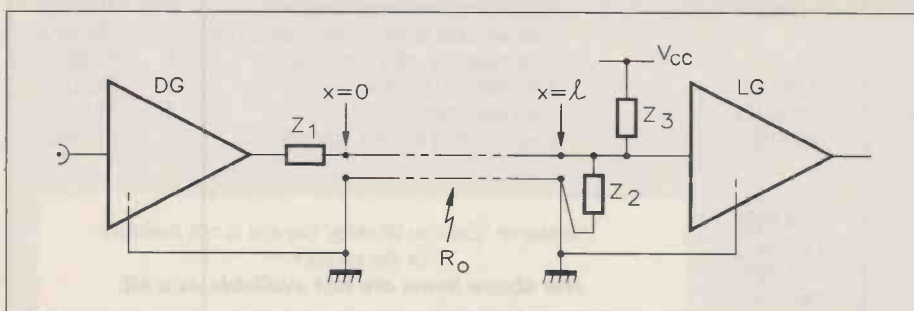
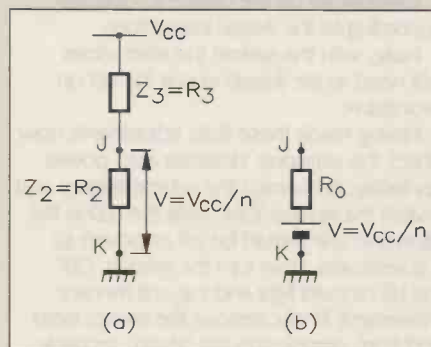

Figure 33. Showing the location of line-matching components for single-ended drive.
Figure 34: (a), technique B in more detail; (b), equivalent circuit for R_1, R_2 values shown.
The location of matching components is shown in Figure 33. The nature and numerical values of the components depend on the particular matching method used. There are four basic types, coded A, B, C and D in Table 1. Most of this is self-explanatory, but the following points deserve a mention. The circuit loading the line at the input to LG for case B is shown in Figure 34(a). If Z_2 and Z_3 have the values indicated in Table 1, then the equivalent circuit, looking between the terminals J and K, is that of Figure 34(b). The value for n is set by the system designer. The popular choice, $n = 2$, for saturating logic gives an equal gate loading for the '0' and '1' output levels that is only one half of that for method A. For non-saturating logic, the standard choice is $n = 2.6$.
* For $R_{in} \gg R_0$. † See Figure 34.